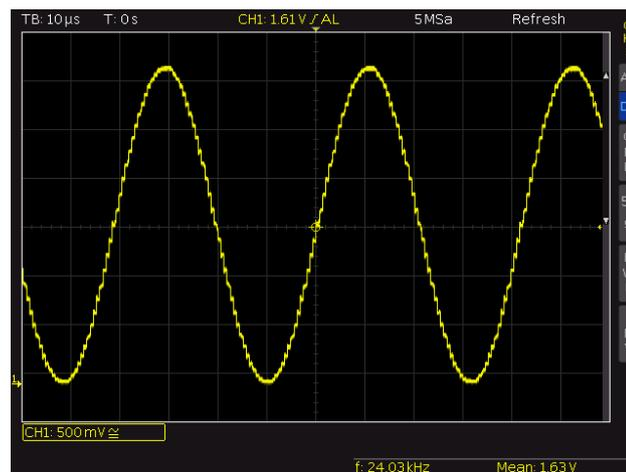

Figure 15 - Output from `dac_example2.c`
2. A 24 kHz Sine wave should appear on *DAC0* as shown in Figure 15.
2. An analogue wave should appear on *DAC0* as shown in Figure 15.